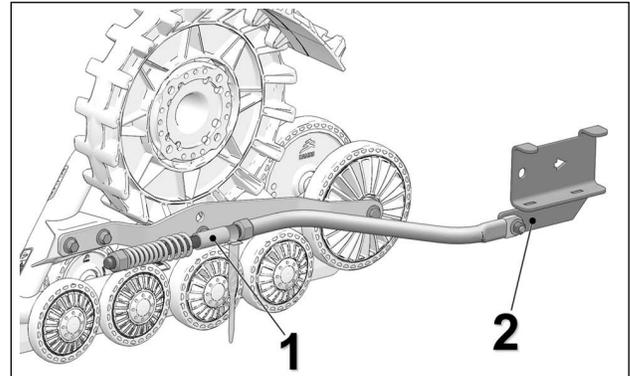

Figure 8
- Stabilizing arm (1) must be attached to Track System and to rear anchor bracket (2) installed on vehicle. See Figure 8.
**NOTE:** Actual Rear Anchor bracket (2) mounted on vehicle may differ from the one in the illustration.